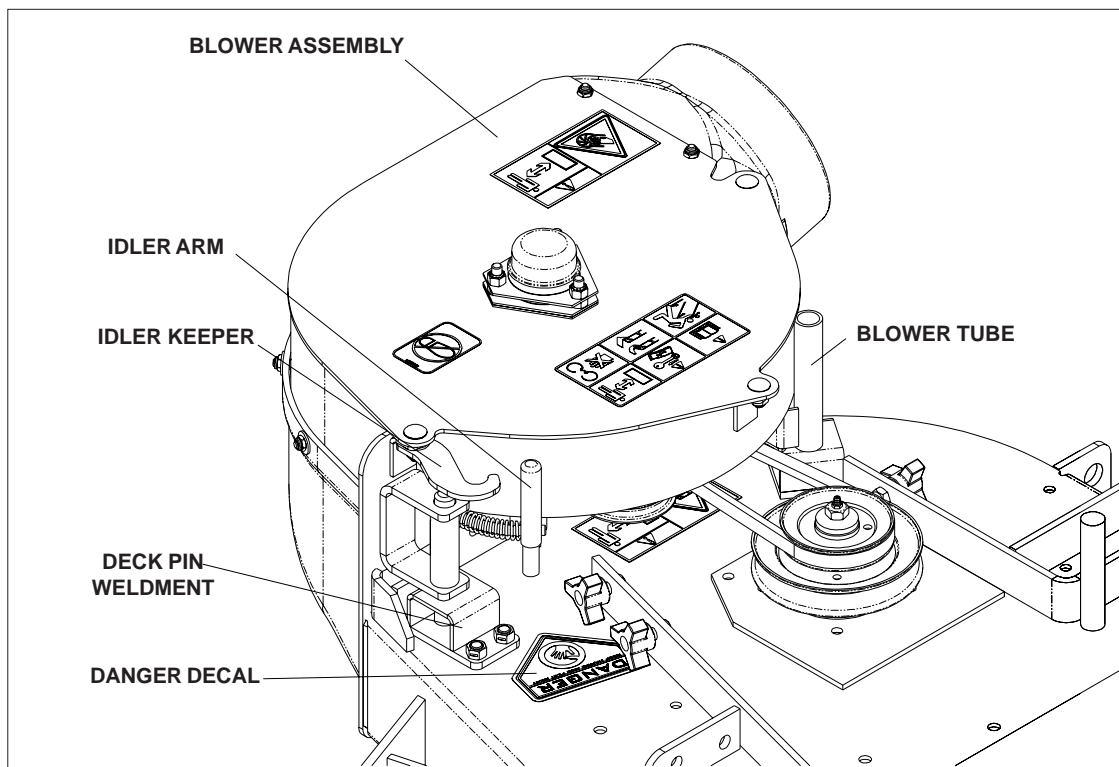

FIGURE 8
14. Place the blower pin weldments in the tubes on the blower assembly. Figure 8.
16. Rotate idler arm to the side and secure with the idler keeper. Install the belt on the deck pulley. Figure 8.